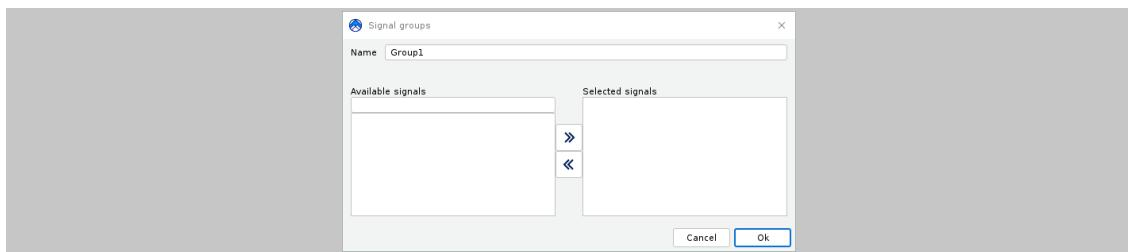

Figure 13: The signal groups window
3. In the window that opens (see Figure 13), provide the name of the group.
4. In the window that opens (see Figure 13), make the desired changes.